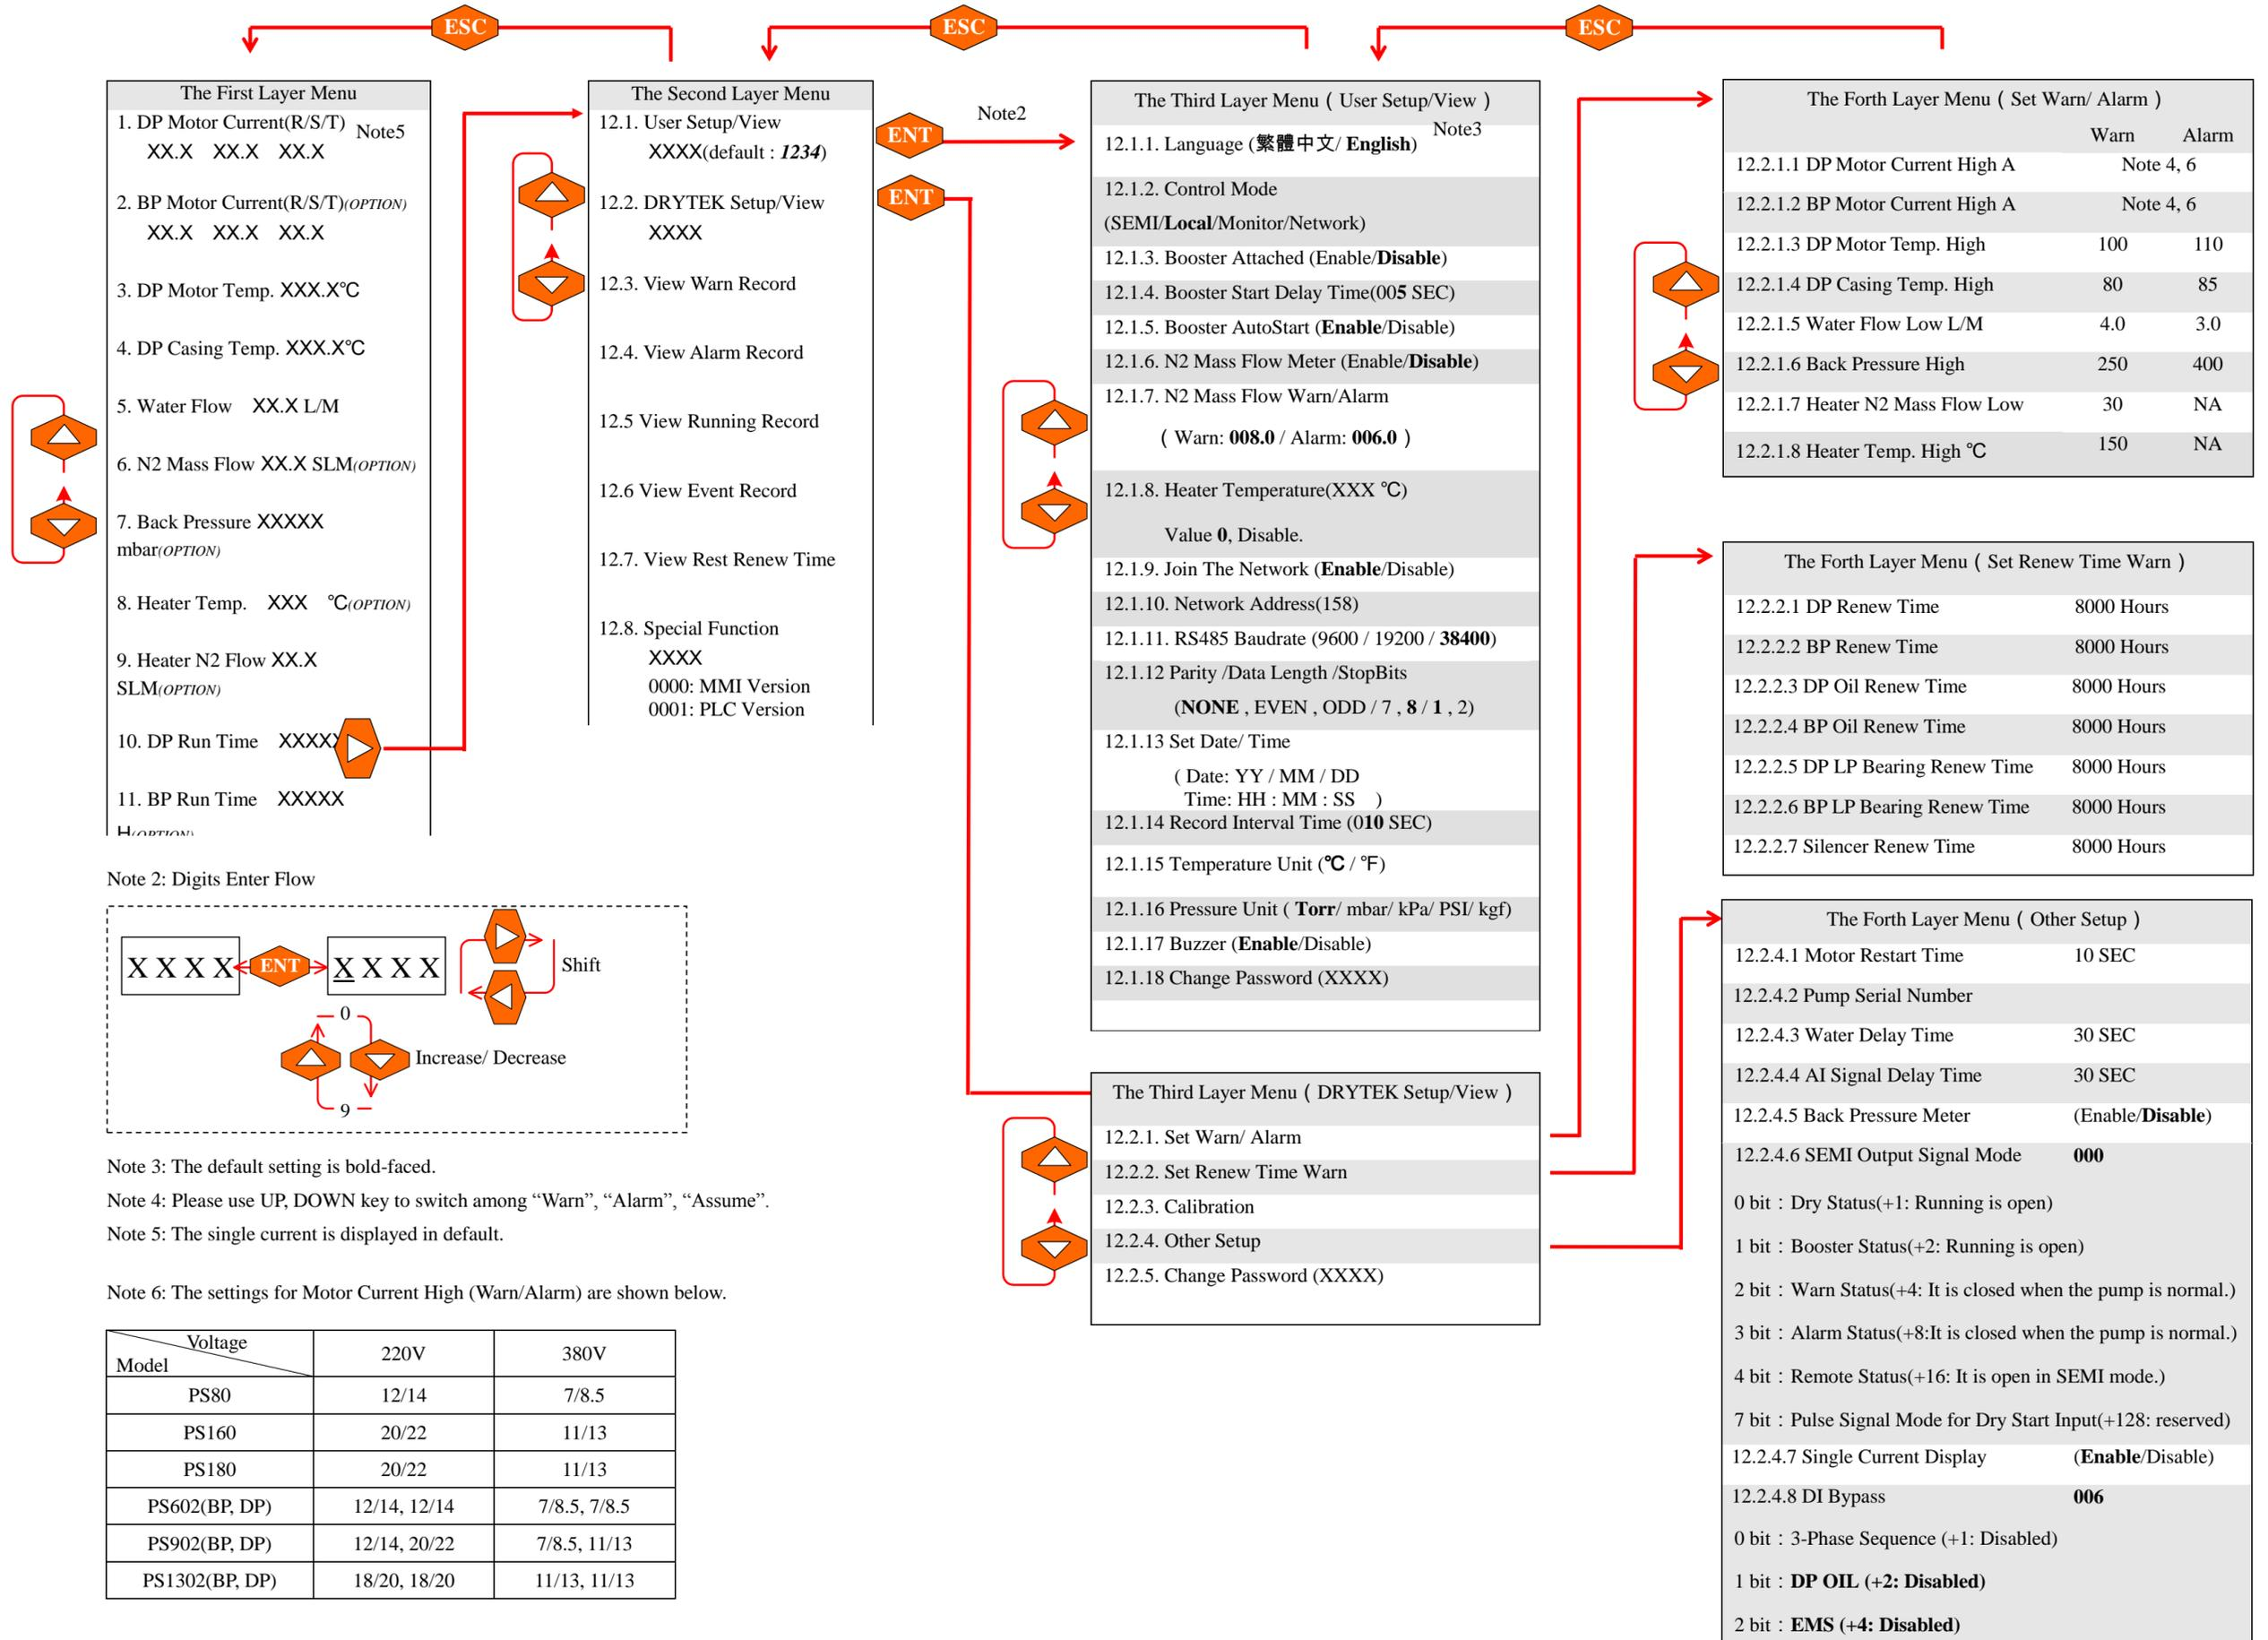

Fig. 4.2 Control Panel Operating Flowchart
4.2 Control Panel Operating Introduction (See Fig.4.2)